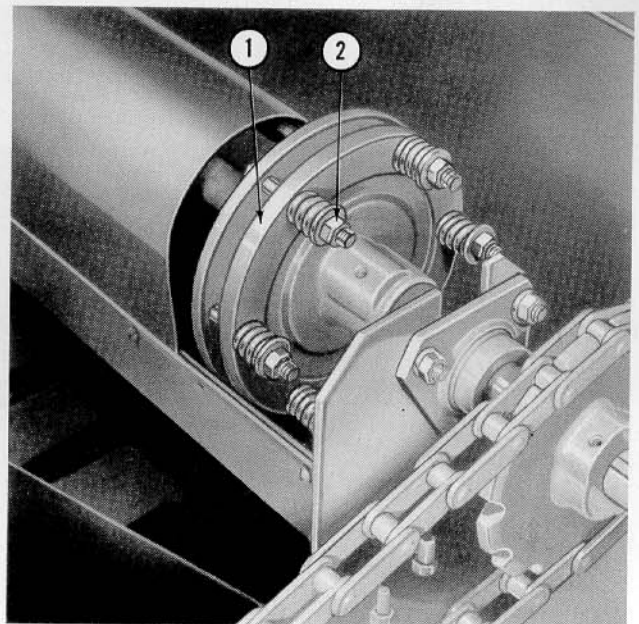

Figure 9
Feed Clutch: The hay pick-up and auger are protected against overloading by a friction clutch (1), Figure 9, at the inner end of the auger-pick-up drive shaft.